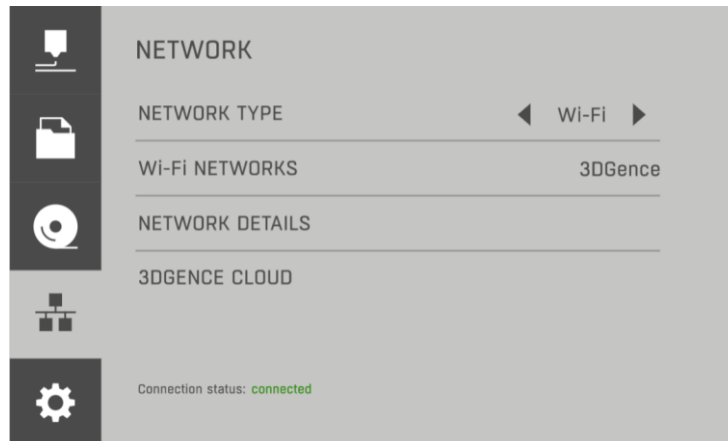

Fig. 38 Network settings screen
4. **Network settings button** – go to the screen for network functionalities (section IV, subsection 1.3, Fig. 38).
Select the “network settings” button to access the network functionalities screen (Fig. 38).
Select it to enable connection to one of the available Wi-Fi networks. The printer then tries to connect to the network and an on-screen keyboard will appear to enter a password, if necessary. Connection to the network is indicated by the “connected” status at the bottom of the screen (Fig. 38).